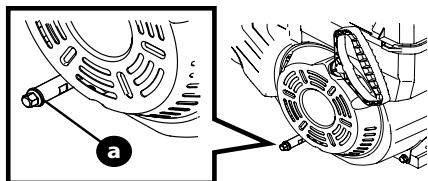

Figure 10
3. Clean area around the oil drain plug (a) (Figure 10).
5. Remove the oil drain plug (Figure 10).